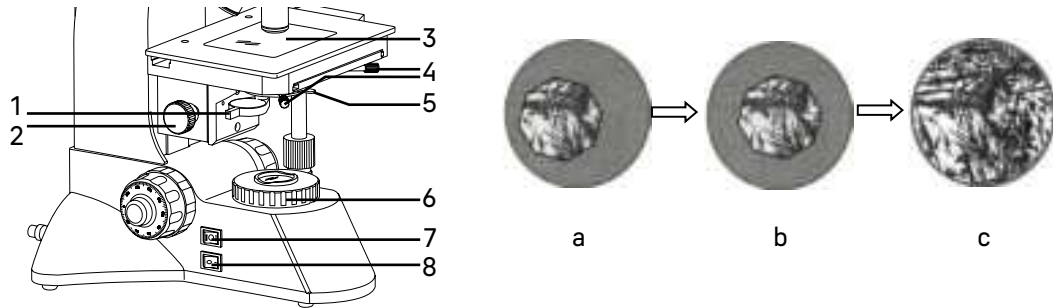

Fig. 12. Centering the condenser
- Make sure that the power supply is on: button **8** (Fig. 12) has been moved to the "—" position.
- Switch on the transmitted light illuminator by setting the switch **7** (Fig. 12) to position "I". Let it run for a while to achieve a stable illumination level.
- Place the sample on the stage **3** (Fig. 12), introduce the 10x objective into the optical path, focus on the specimen, and adjust the eyepieces.
- Open the field diaphragm **6** (Fig. 12) and the condenser aperture diaphragm, and raise the condenser all the way up using the condenser focus knob **2** (Fig. 12).
- Use the condenser centering screws **4** (Fig. 12) to move the image to the center of the eyepiece field of view – Fig. 12b.
- Carefully moving the condenser up and down by rotating the condenser focus knob **2** (Fig. 12), place the condenser into the working position. In this position, the edges of the octagon-shaped image of the closed field diaphragm are sharp and the diffracted blue-green color at the edge of the diaphragm is directed beyond the edge of the diaphragm and not into the field of view.